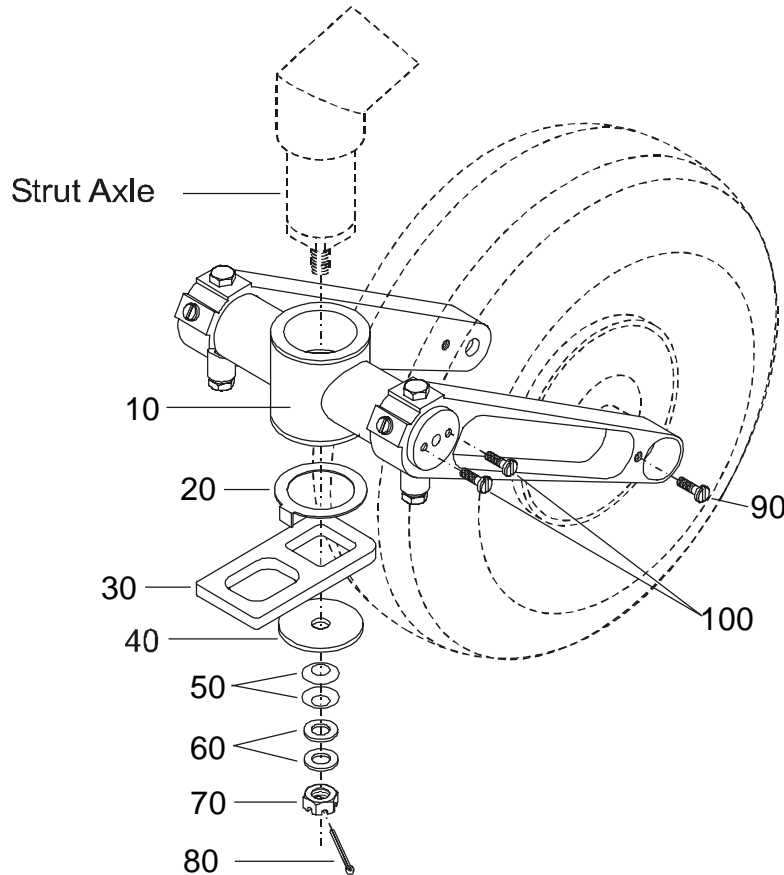

Figure 1
Note: Diamond Aircraft recommends an upgrade of the Steering Stop Plate to P/N 20-3220-00-23 (ITEM 30 in Figure 1) in place of P/N 20-3220-00-18 (see Figure 3) installed on some aircraft, before accomplishment of Part 2 of this service bulletin.
- 10.2.8** Install new fork assembly – refer to Figure 1 for assembly order.